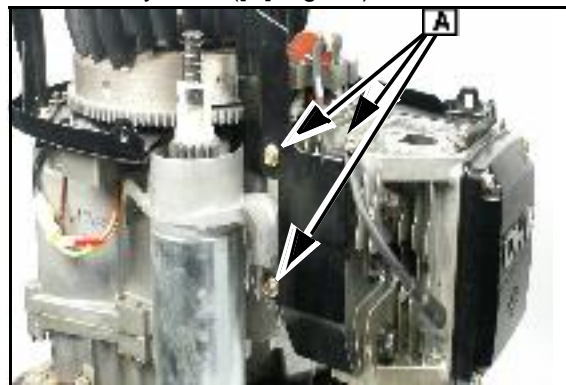

Fig. 20
3. Remove the bolts that secure the baffle to the cylinder ([A] Fig. 20).